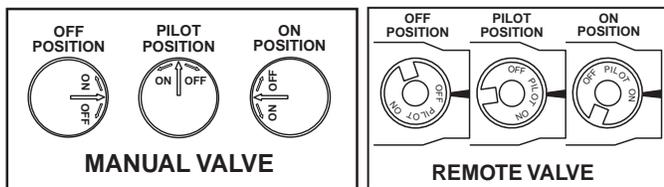

Figure 10
3. Make sure that the control valve on the assembly is in the "OFF" position (see Figure 10). Turn on the gas to the fireplace and check for leaks at all connections by using a soapy water solution. **Never use an open flame to check for leaks.**